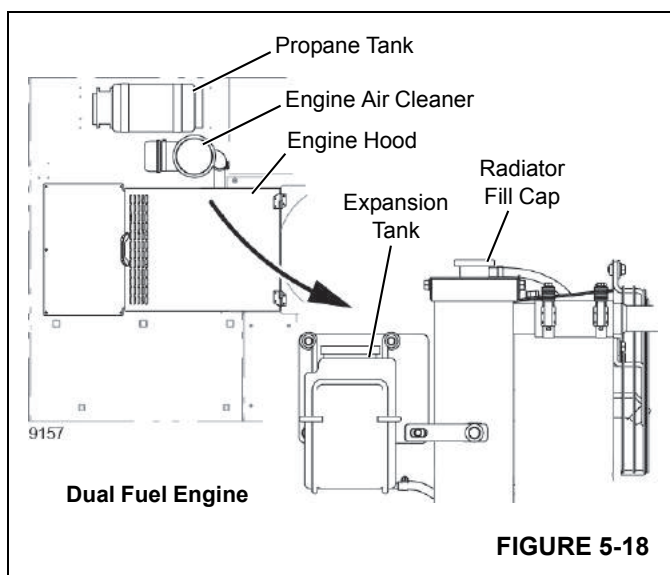

FIGURE 5-18
3. For Dual-Fuel Engine (Figure 5-18):